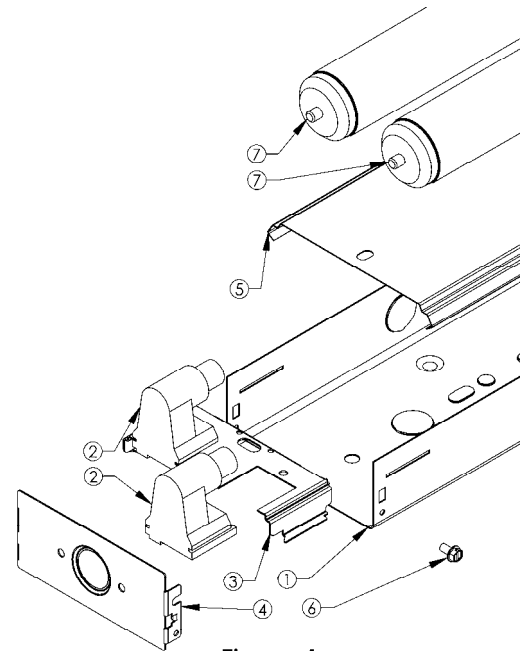

Figure 1
2. Fixture assembly. (Figure 1)
- A. Stretch pre-wired socket(s) (2) out past each end of channel (1).
- B. Snap socket bar (3) into slotted openings in channel (1) (Both ends).
- C. Slide socket(s) (2) into socket bar (3) using upper most grooves of socket(s) (2) (Both ends).
- D. Slide end cap (4) into position and secure with one 8/32 screws (6) (supplied) (Both ends).
- A. To locate, hold channel (1) up to ceiling with power supply knockout located over entryway for power supply wires. Mark the locations of the mounting holes on the ceiling. Take the channel (1) down and punch a small hole into the ceiling at each location using a nail or an awl to see if there is a wood joist. If there is a joist use a suitable wood screw (not included) to mount the channel (1). Where there is no joist to screw into use a toggle bolt (not included) of suitable length to mount channel (1) securely to the ceiling. **Proceed to step B before final mounting.**
- B. Feed the black and white supply wires, and the green ground wire into the fixture (1) through the open knockout hole. At this time you can finish mounting the channel (1) to the ceiling.